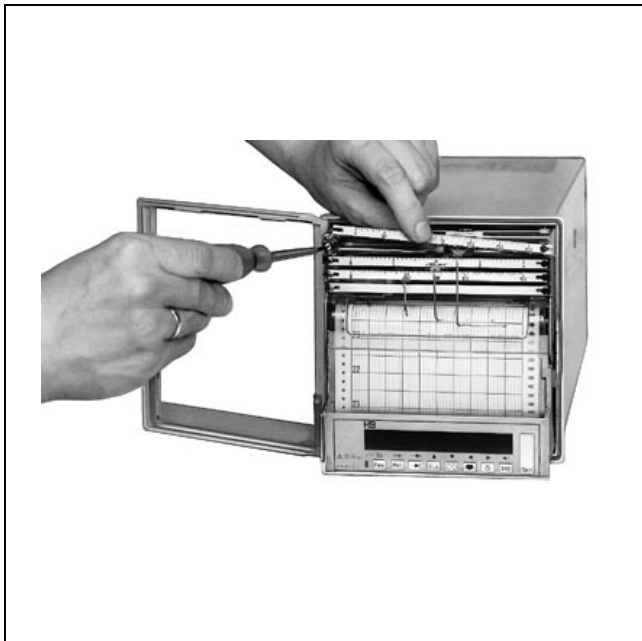

Fig. 17 Exchanging the scales
5. Take out the scales from the left side (see fig. 17).